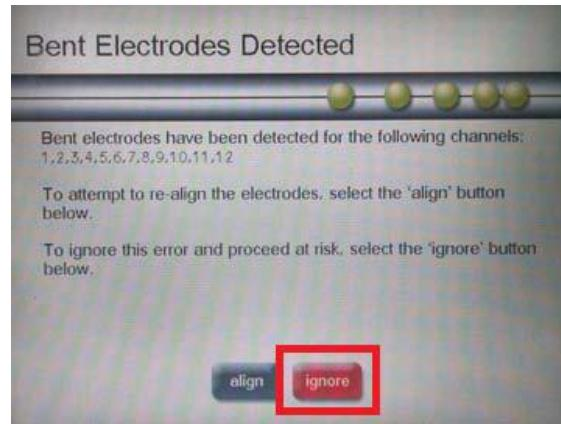

Figure 125: ‘Bent Electrodes Detected’ screen
5. Approximately 10 minutes after initiating the dry run, you will receive a ‘bent electrode’ error message (**Figure 125**). This is expected as there is no liquid in the blank cartridge. To continue with the run, choose ‘IGNORE’ and the Prep Station will continue running the rest of the protocol.